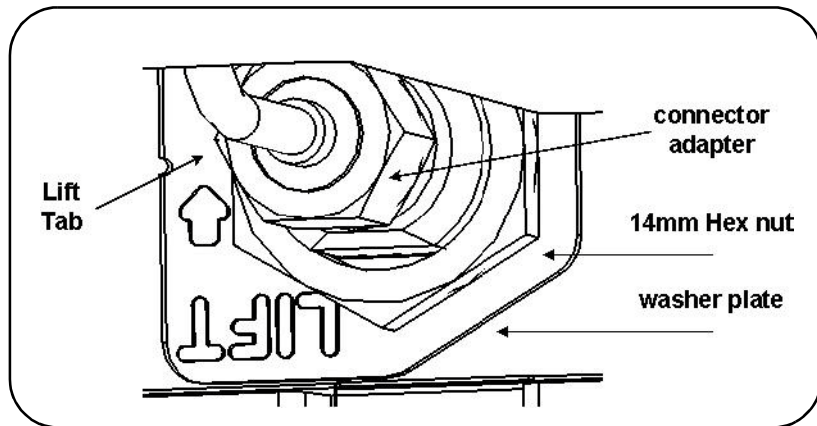

Figure 21. Connector-Adapter Installation.
11. On the back side of the connector-adapter, place the washer plate and the 14mm hex nut over the SMA connector and secure. See Figure 21.